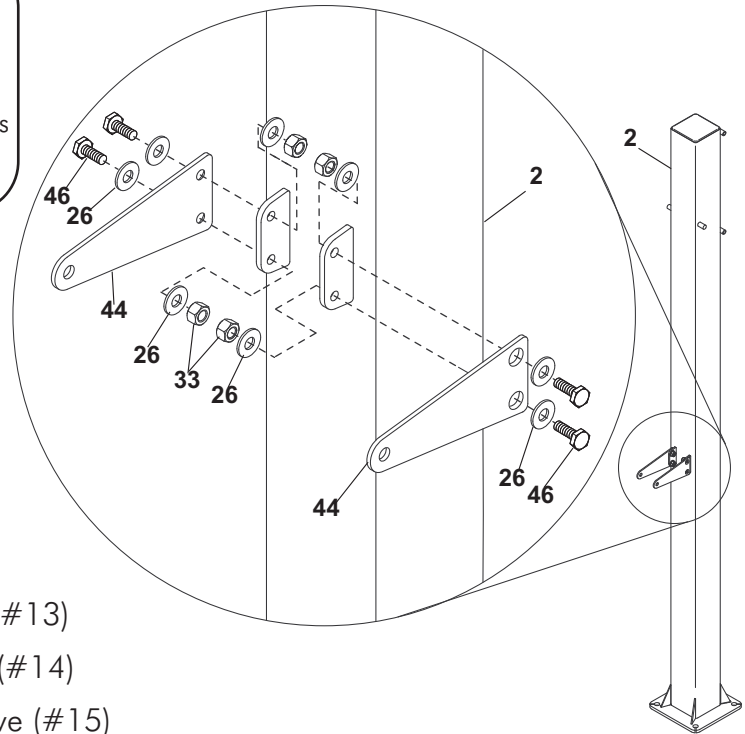

Figure 3
1. Attach Post Brackets (#44) to outside of brackets on back of Post Assembly (#2). Secure with two Hex Head Bolts (#46), four Wide Flat Head Washers (#26) and two Locknuts (#33) **in each Bracket** (#44). See **Figure 3**.